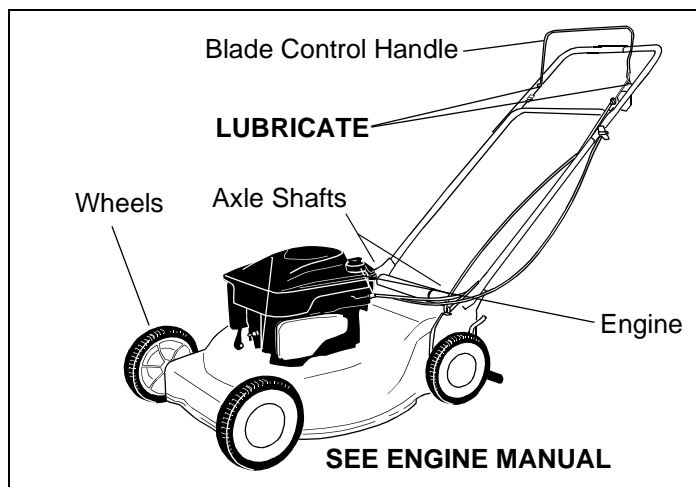

Figure 4
**Blade Control:** Lubricate the pivot points on the blade control handle and the brake cable at least once a season with light oil. See Figure 4. The blade control must operate freely in both directions.